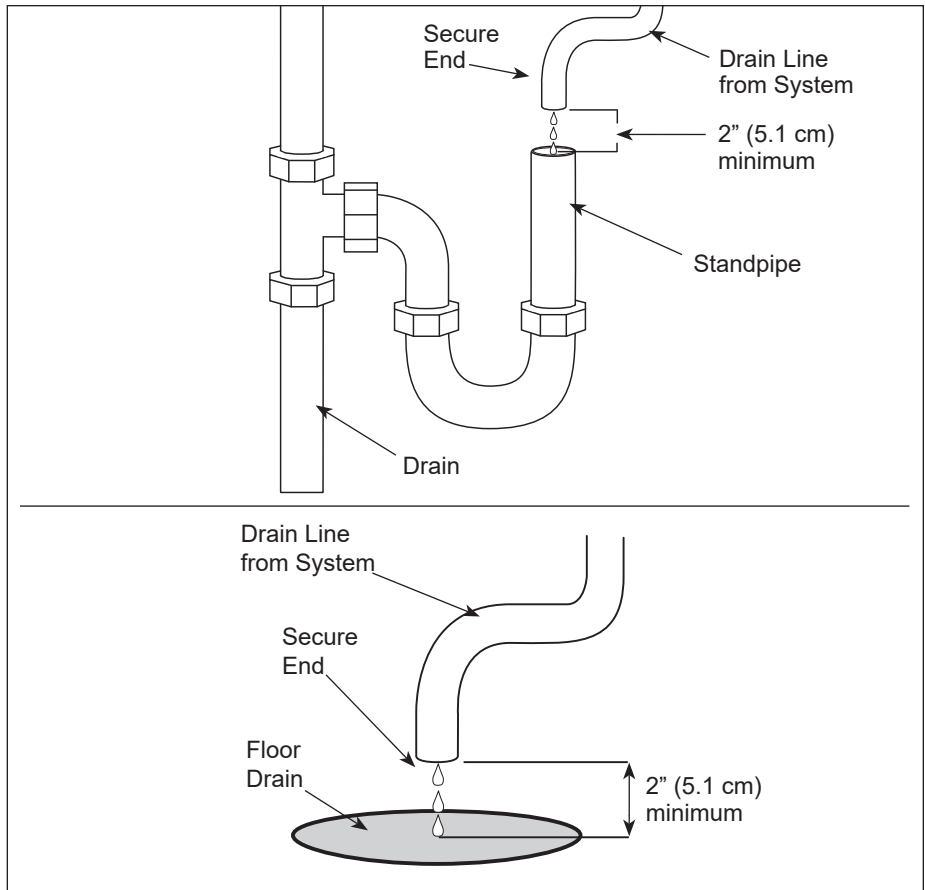

Figure 3. Drain Line Plumbing
- The drain line plumbing must be positioned and secured at least 2 inches above the drain (Figure 3). This air gap protects the system from contamination in the event of a backed-up drain.